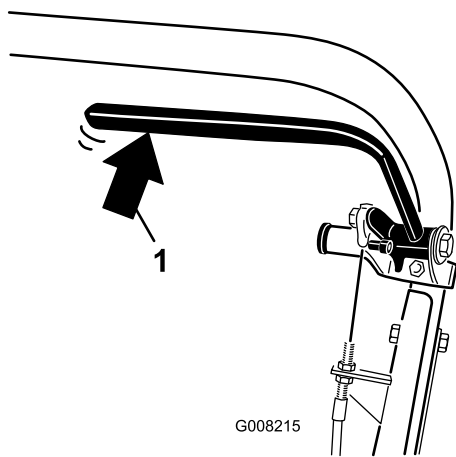

Figure 31
2. Using a spring scale, press rearward on the service brake lever (Figure 31). The parking brake should release when a force of 13.5 to 18 kg (30 to 40 lb) is attained. If the parking brake releases before 13.5 to 18 kg (30 to 40 lb) of force is attained, an adjustment to the brake cable is required. Proceed to step 3.